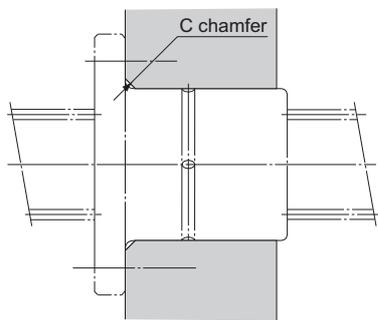

Fig.1
From the diagram of pV values (see Fig.1 on A-517), it is judged that there will be no abnormal wear if the sliding speed (V) is 13.5 m/min or below against the " p " value of 1.73 N/mm². Therefore, it is appropriate to select model DPM3560.